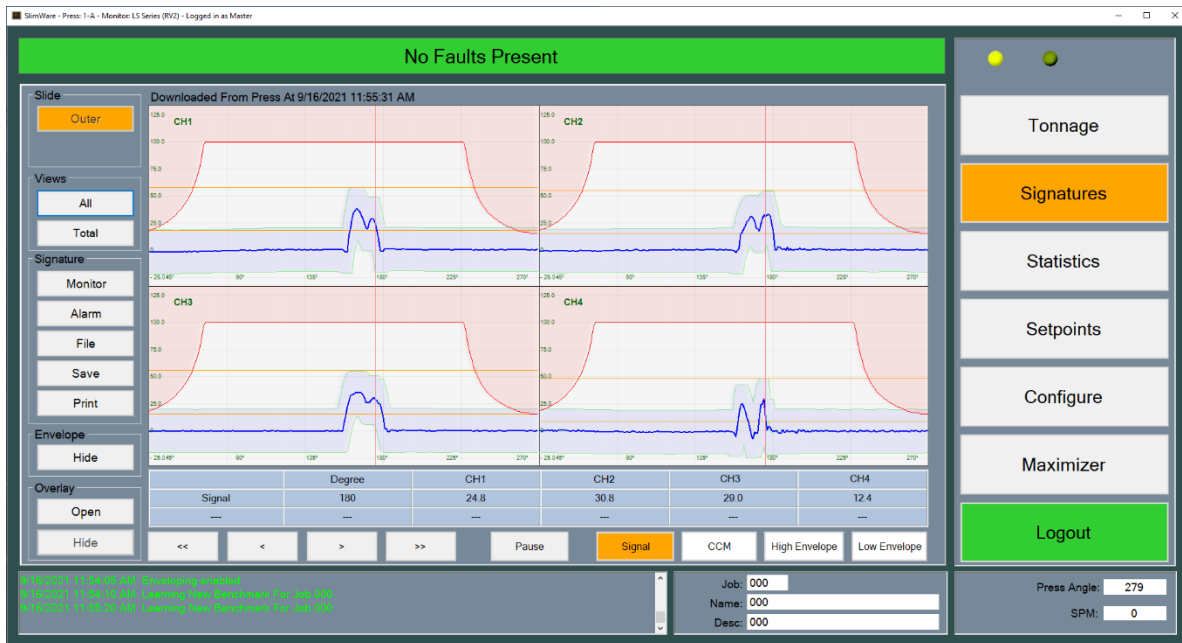

Figure 6-1 – Signature Screen (4 Channel)
Figure 6-1 shows a typical four (4) channel signature with enveloping. Operators can analyze the signatures from each stroke and determine if there are problems such as excessive tonnage early or late in the stroke.